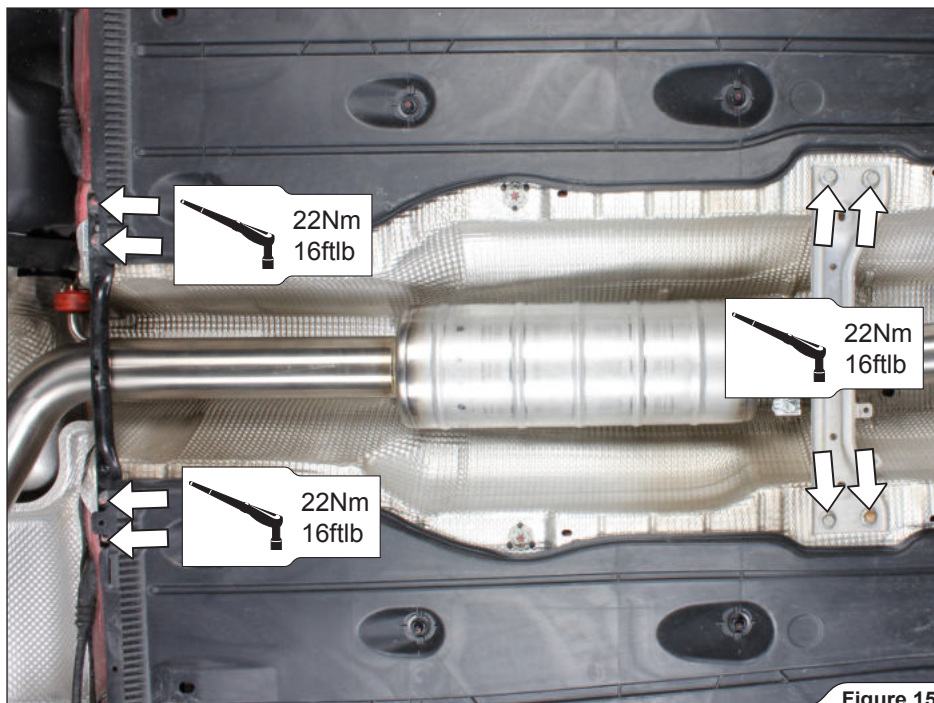

Figure 15
- Slide the Link Pipe all the way onto the Down Pipe's outlet, attach the Link Pipe's bracket to the stock rubber bracket, hand tighten the clamp and reinstall the two reinforcements back onto the chassis (Figure 15, 16).